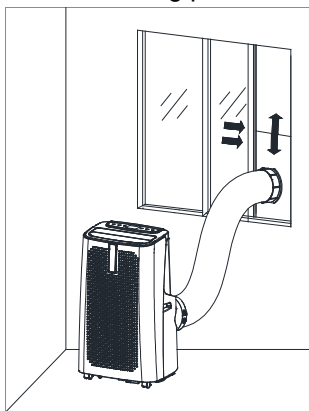
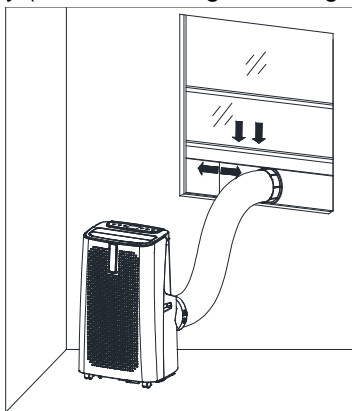

Fig. 6
Fig. 7
3) Elongate the exhaust pipe and snap the flat end of the exhaust pipe joints into the hole of the window sealing plate assembly (as shown in Fig.6 and Fig.7).